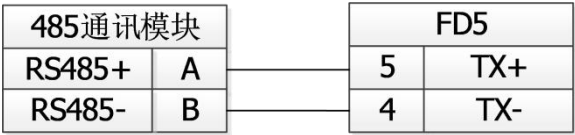

Figure 10-2 RS485 signal wiring
The RS485 port of the FD5 series servo drive supports the MODBUS communication function, which can be used to modify the internal parameters of the servo and monitor the servo status. The communication line of the master station is connected to X4A (IN), and X14B (OUT) is connected to the next slave device. Wiring is shown in Figure 10-2 and Figure 10-3.。